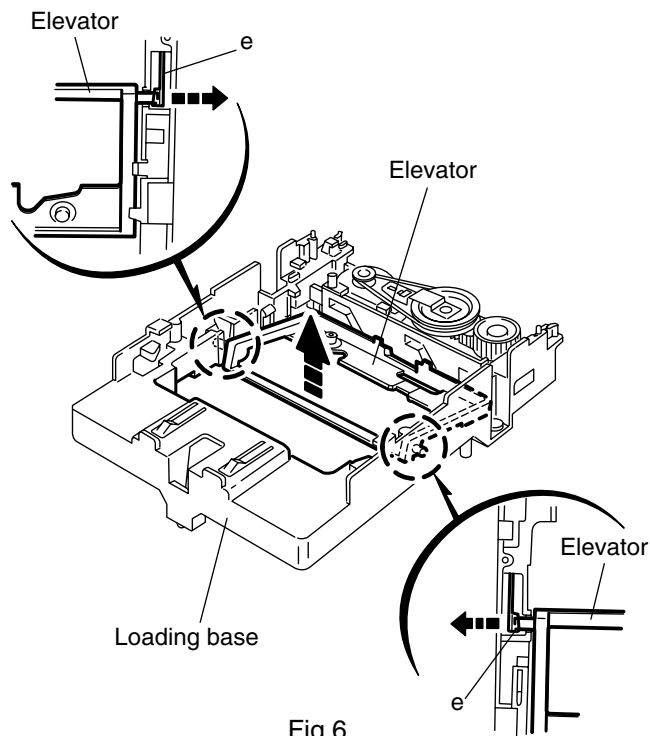

Fig.6
**■ Removing the elevator (See Fig.6 and 7)**